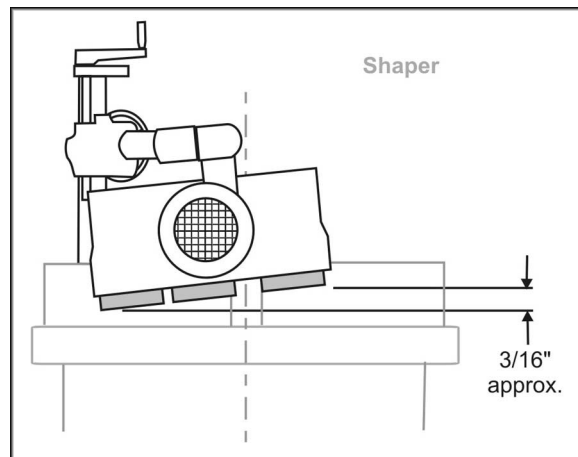

Figure 18
3. When the Stock Feeder is in edgewise position, it must be inclined slightly towards the work table in the direction of feed, to ensure the workpiece remains forced down against the table. In other words, the outfeed roller should be approximately $3/16"$ closer to the work table than the infeed roller. See Figure 18.
4. When the Stock Feeder is in the edgewise position, or angled for a beveled workpiece, the axis of the cutter should be between the infeed roller and the center roller (between the two center rollers on the 4-roller model). See Figure 18. The center roller should NOT be directed toward the opening between the fences, but should act directly against the fence.